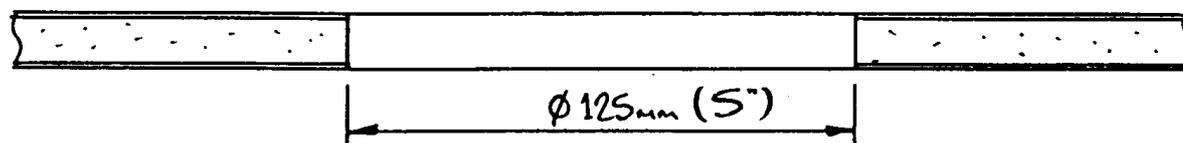

Fig 4. Hole cut out
2. Cut a hole through the fuselage shell 25 mm (1") larger than the desired access hole. The maximum diameter for the access hole should be kept to 100 mm (4") - (figure 4).